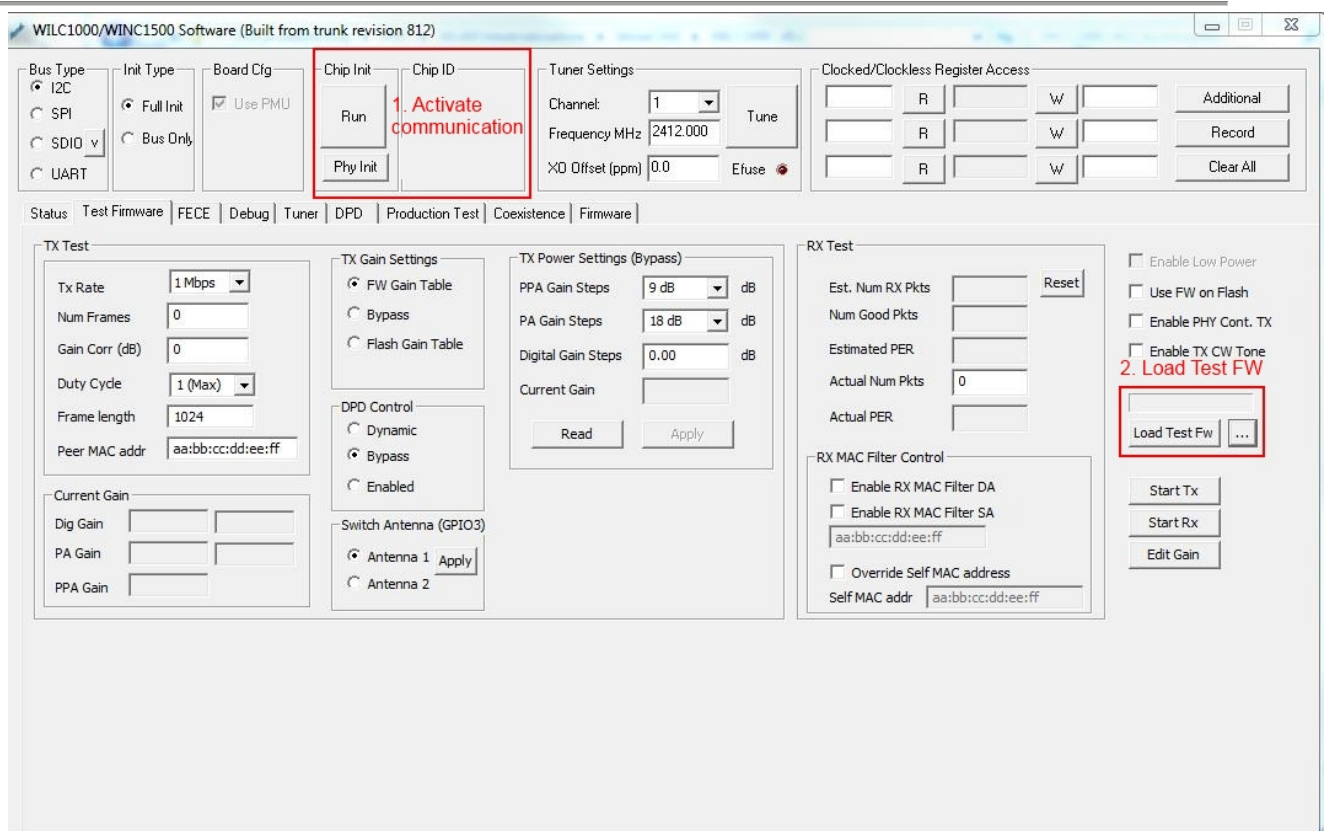

Figure 12: Atmel GUI first steps
- Activate the communication between Wlan module and GUI by pressing the **RUN** button (see Figure 12 step 1). The chip ID should appear. Current consumption should be  $I=0,06A$
- Select Firmware **burst\_tx\_firmware.bin** and press **Load Test Fw** (see Figure 12 step 2). Current consumption should be  $I=0,10A$ .